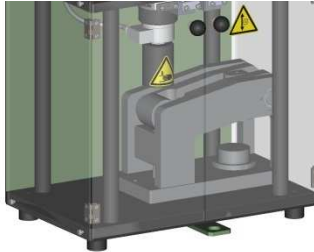

Figure 6.2.14
3. Place the Minilab Pedestal in the High-Pressure Measuring Device base (see Figure 6.2.14).